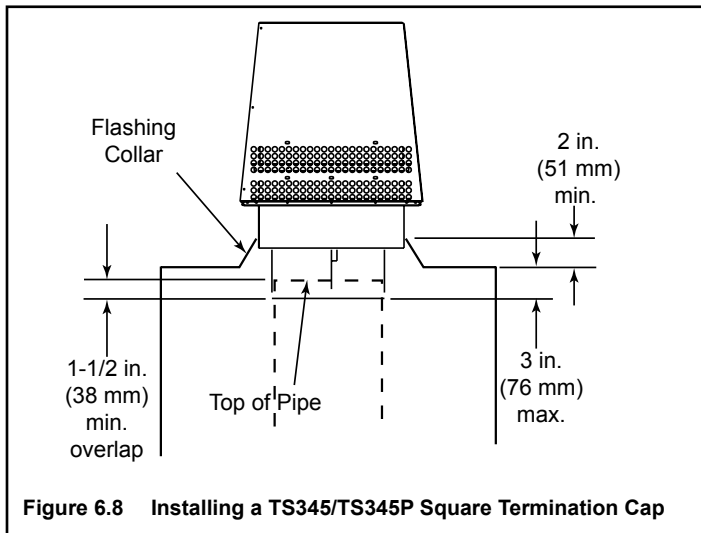

Figure 6.8 Installing a TS345/TS345P Square Termination Cap
- For installations utilizing a TS345/TS345P Square Termination Cap, the uppermost chimney section must not be more than 3 in. (76 mm) below the chase top. See Figure 6.8